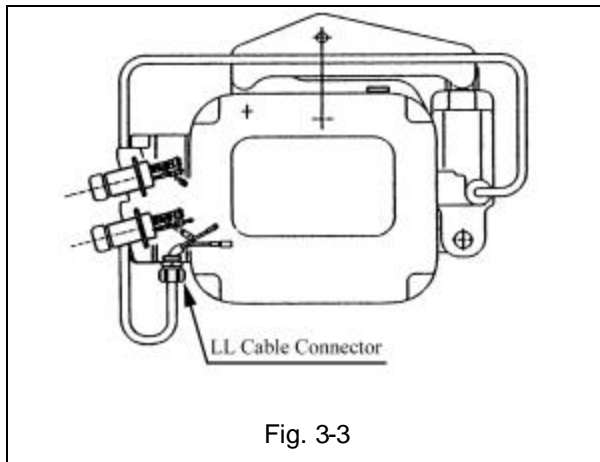

Fig. 3-3
- 3) Attach the LL cable to the Socket Frame Holder L. Refer to Figure 3-3.